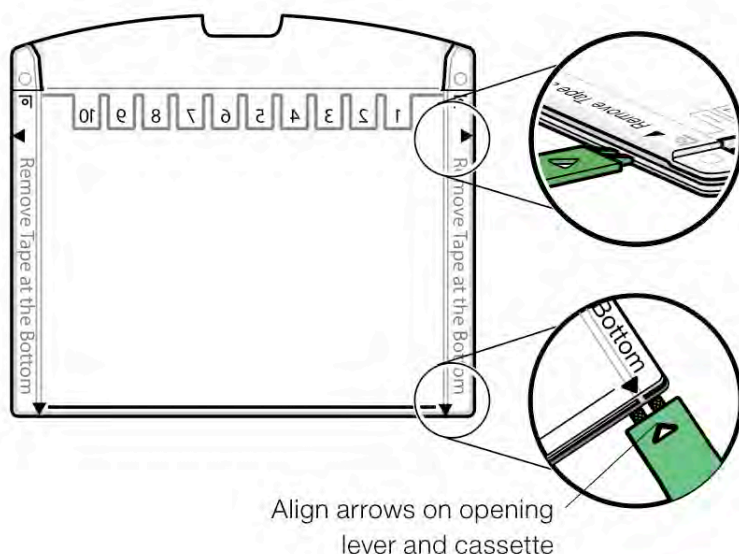

Figure 3. Opening the gel cassette.
- Open the cassette:** Align the arrow on the opening lever with the arrows marked on the cassette (see Figure 3). Insert the lever between the cassette plates at all four locations and apply downward pressure to break each seal. Do not twist the lever. Gently pull apart the two plates beginning from the top of the cassette.